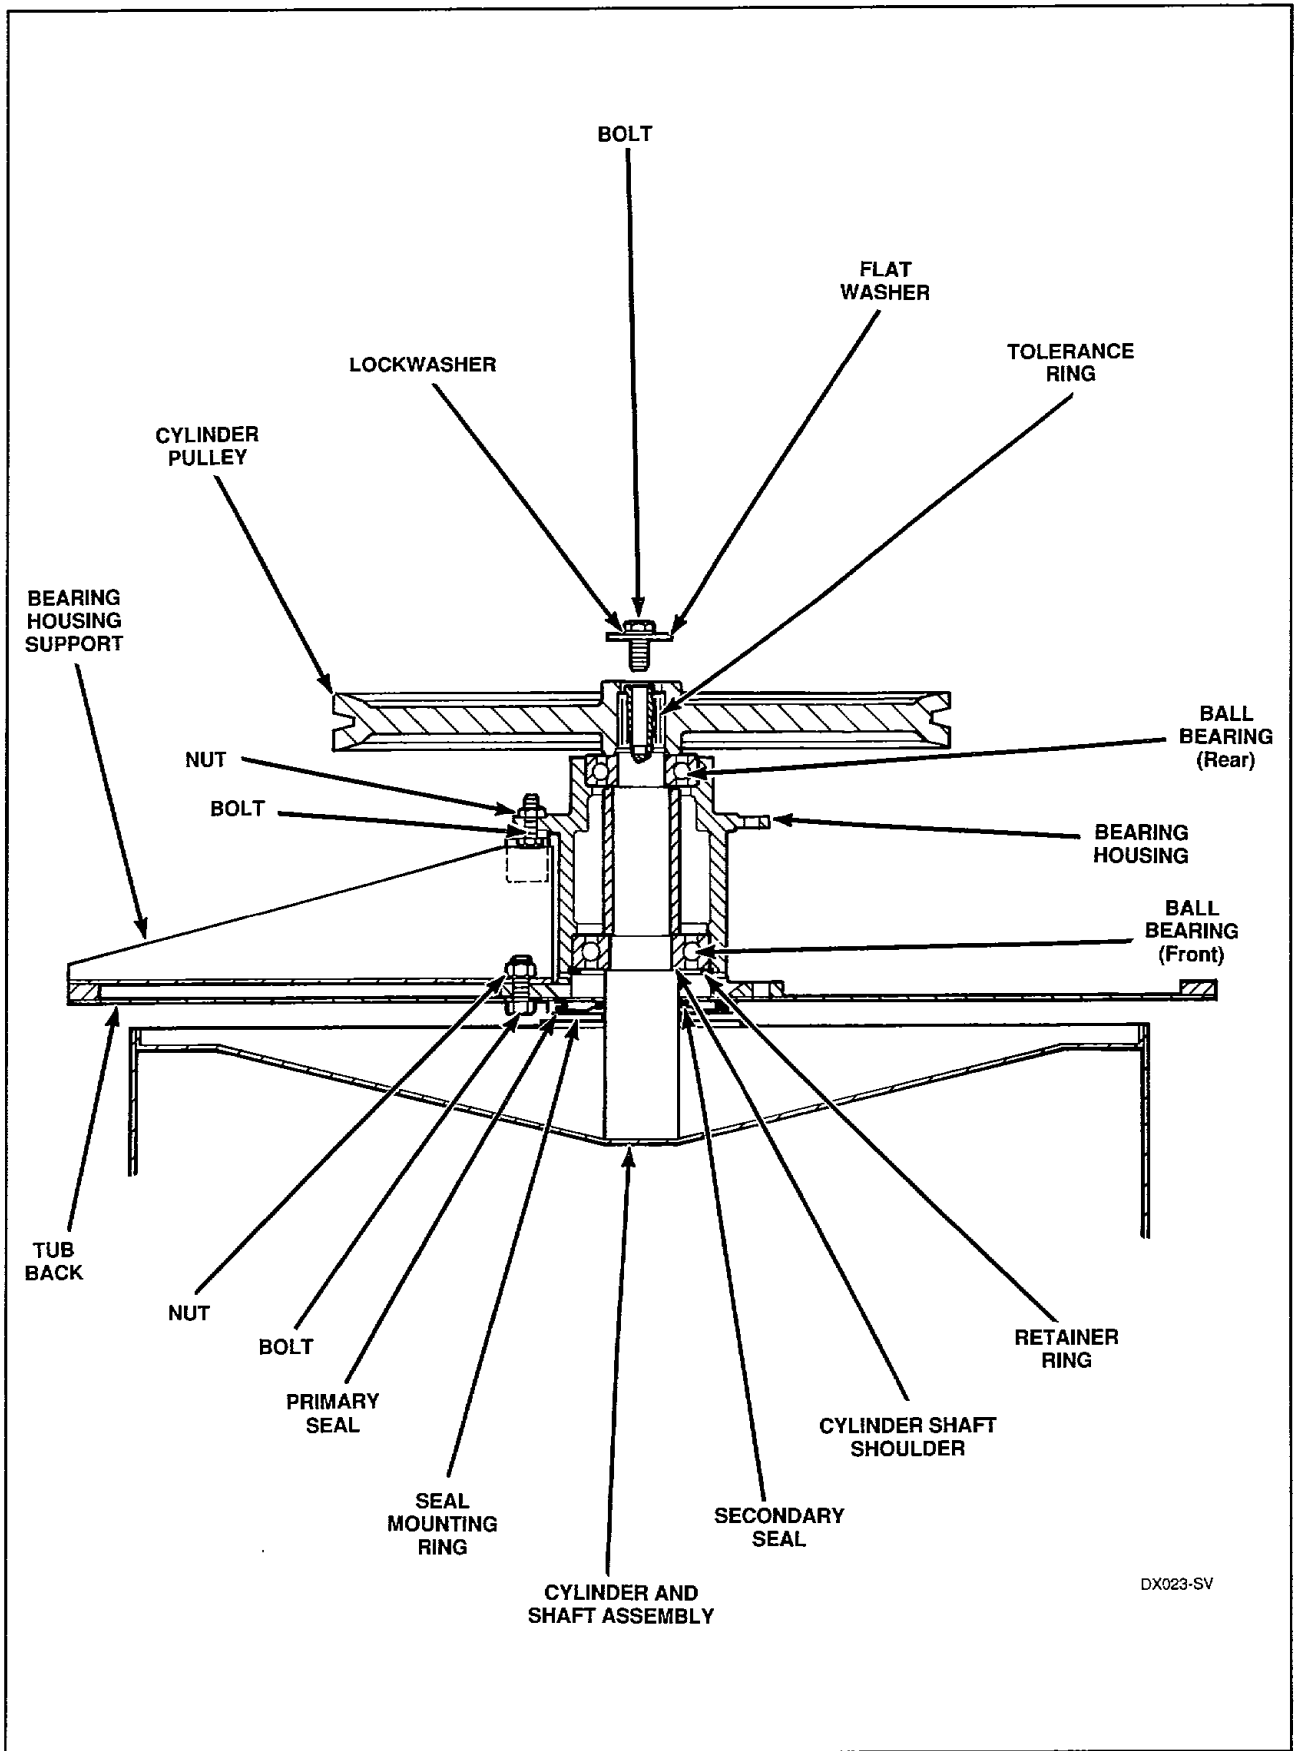

Figure 23
- a. Remove bolt, lockwasher and flat washer holding pulley to cylinder shaft, *Figure 23*.
- g. Remove the threaded rod, disc and spacer from cylinder shaft and install the flat washer, lockwasher and bolt in end of cylinder shaft, *Figure 23*.
- b. Remove six bolts and nuts holding the bearing housing supports to the rear flange of the bearing housing, *Figure 23*.
NOTE: Leave the bearing housing supports and tub back assembled to the front flange of the bearing housing, *Figure 23*.
- f. Remove six bolts and nuts holding the bearing housing supports and tub back to the front flange of the bearing housing, *Figure 23*.
- a. Bolt the tub back and six bearing housing supports to the front and rear flanges on the bearing housing, *Figure 23*.